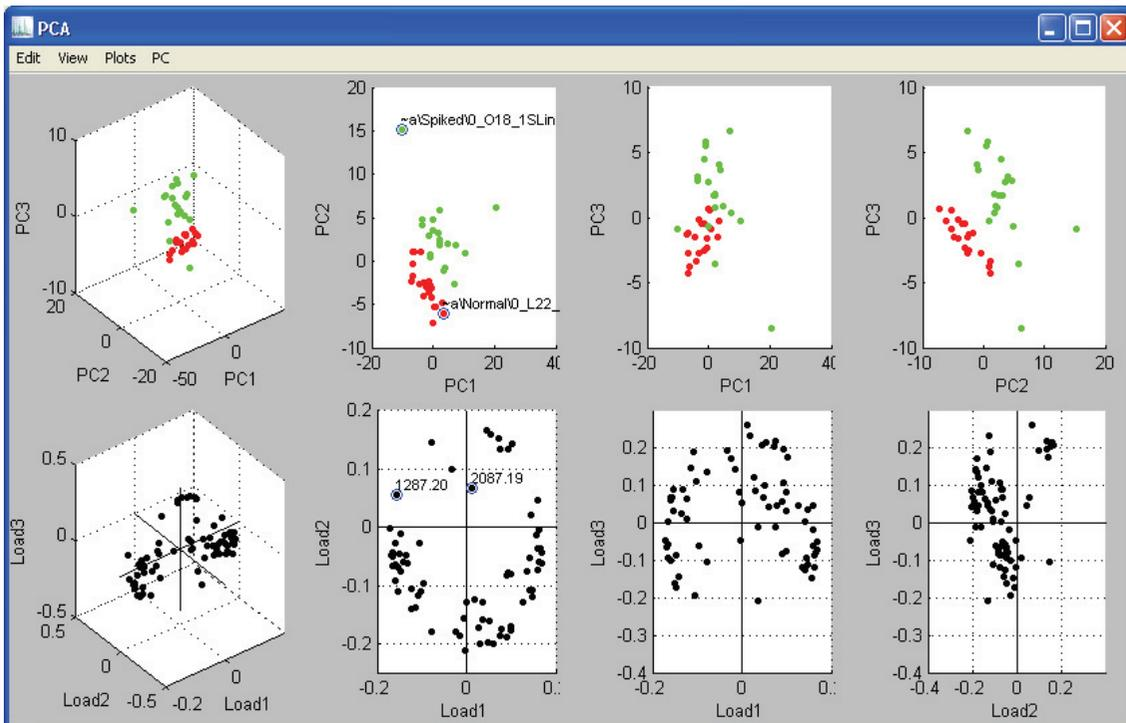

Figure 5-13 PCA main window showing PCA results for two loaded classes in the Scores plots (top row) and Loadings plots (bottom row)
The PCA main window (Figure 5-13) displays the results of a PCA run performed on the loaded spectra data set(s) (Section 7.5.2.1). It contains eight 3D and 2D plots, four Scores plots (top row) and four Loadings plots (bottom row), showing the data of three selected principle components (PC) (Section 7.5.2.1). The black crosses in the Loadings plots mark the zero axes. Multiple PCA main windows can be open at a time, each representing the results of another PCA run.